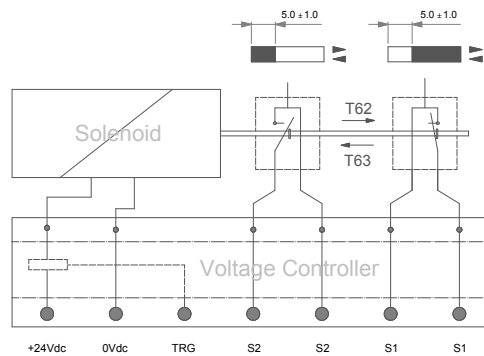

Fig.5 Circuit schematic
- Positive break (forced contact) switch $\pm 24V$ 0.5A – see Fig 5.